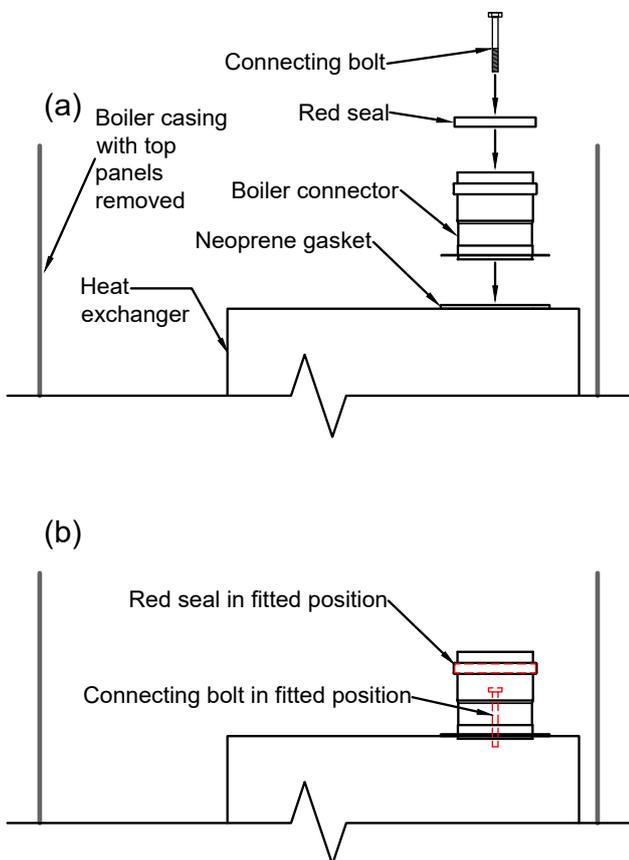

Figure 4-1: Fitting boiler connector
- Refer to Figure 4-1 (a) for guidance.
4. Re-fit the connecting bolt provided through the hole in the spacer bracket in the connector and into the nut in the flue outlet. Tighten to secure the connector. Refer to Figure 4-1 (b) for guidance.
5. Ensure that the red seal is fitted in the internal recess in the top of the boiler connector. Lubricate the interior edge of the seal using the silicone grease provided. Refer to Figure 4-1 (b) for guidance.